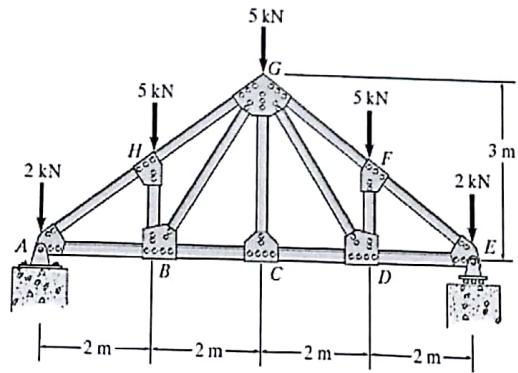

Fig. 5
5. The Howe truss is subjected to the loading shown. Determine the forces in members GF, CD, and GC. State if the members are in tension or compression. Assume all members are pin connected. (Fig. 5)